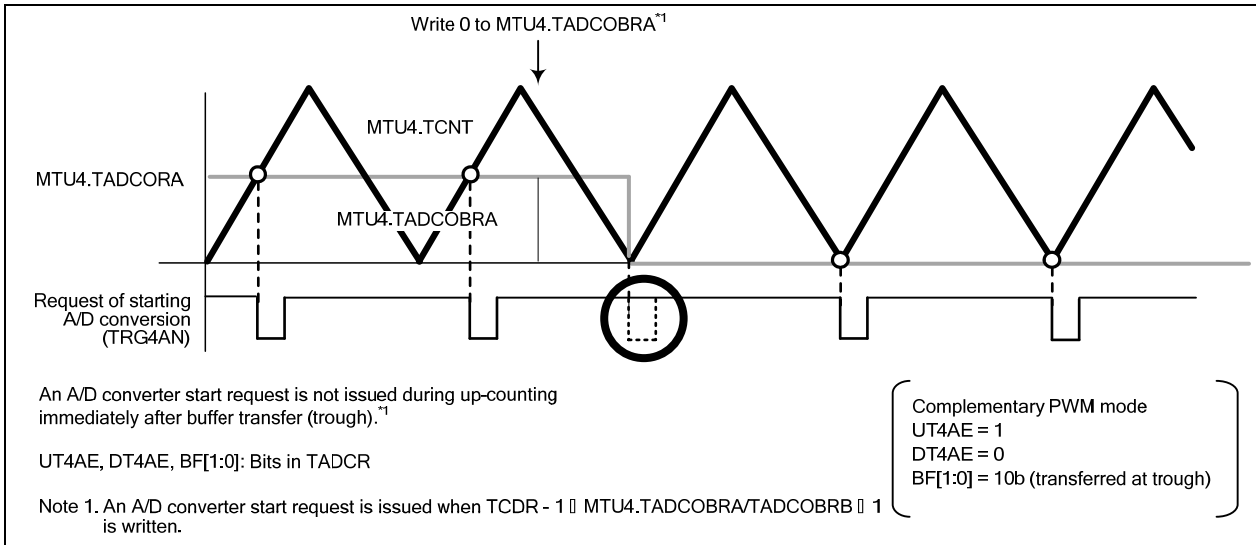

Figure 2.1 A/D Converter Start Request When 0 is Written to MTU4.TADCOBRA
- When MTUn.TADCOBRA/MTUn.TADCOBRB is set to 0 and the UT4AE or UT4BE bit in MTUn.TADCR is set to 1, and the result is transferred to the buffer when counting by MTUn.TCNT reaches its trough, an A/D converter start request is not generated during the up-counting period immediately following the transfer (Figure 2.1).